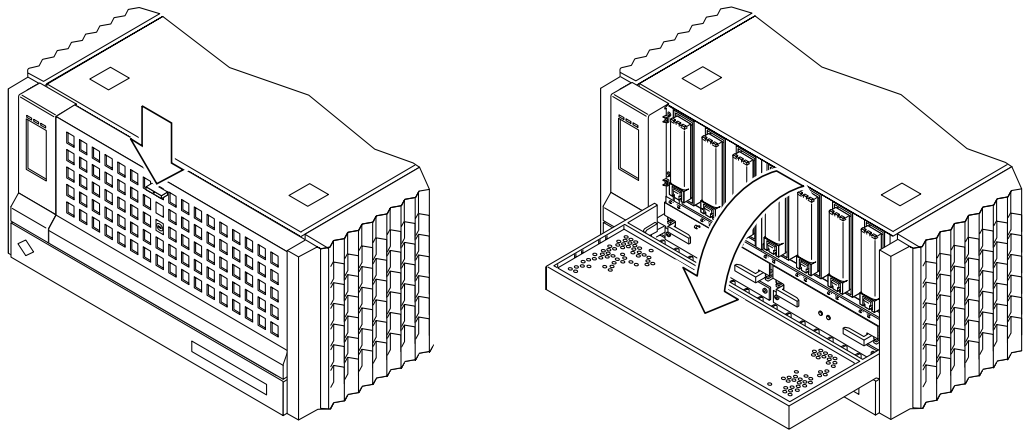

FIGURE 8-1 Opening a Door
4. Open the door (FIGURE 8-1).